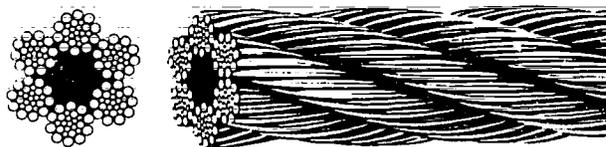

Figure 7-47. 6 x 26 Right Regular Lay, Fibre Core
**6 x 19 Classification** This classification covers ropes with 6 strands closed around a fibre or steel core and includes ropes having 17 to 26 wires per strand; an example is shown in Figure 7-47. Rope of 6 x 19 classification is used on a greater variety of applications than any other. Such ropes will be found on bridge cranes and gantrys, shop cranes and mobile cranes, hoists and derricks, dredges and clam shells, drag lines and scrapers, power shovels and trench hoes, blast-holes drills and in industry generally.